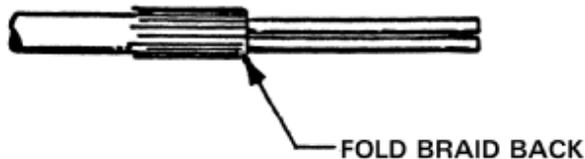

FIGURE 10
5.2.2.4 Comb out braid and fold it back over jacket; then straighten exposed twisted pair wires per Figure 10.